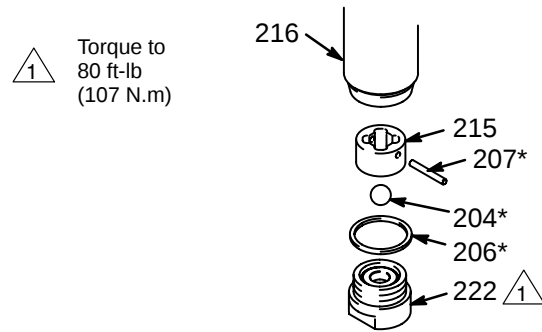

Fig 32
1. Remove and disassemble the intake valve (222). If no further service is needed, reassemble the valve, using a new gasket (206*). Torque the intake valve to 80 ft-lb (107 N.m). See Fig 32.
2. Remove the packing nut (221) and plug (201).
3. Tap the piston rod (223) down with a plastic mallet. Pull the rod out the bottom of the cylinder (216).
4. Remove the packings and glands from the throat of the cylinder (216).
5. Clamp the flats of the piston rod (223) in a vise. Unscrew the retaining nut (214). Unscrew the piston valve (224) from the rod. Remove all parts from the piston.